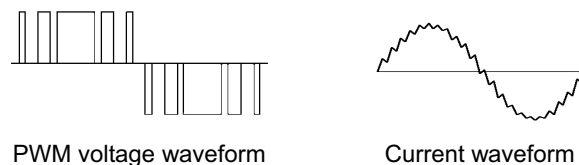

Figure 1.23 Output Voltage and Current Waveform of the Inverter
The voltage applied to the motor has a waveform modulated by the carrier frequency from the dynamic torque vector flux controller that estimates the optimal PWM signal monitoring the inverter output current feedback, as shown on the left-hand side ("PWM voltage waveform") of Figure 1.23. The voltage consists of alternating cycles of positive and negative pulse trains synchronizing with the inverter's output frequency.
The current running through the motor, on the other hand, has a fairly smooth alternating current (AC) waveform shown on the right-hand side ("Current waveform") of Figure 1.23, thanks to the inductance of the motor coil. The control block section controls the PWM so as to bring this current waveform as close to a sinusoidal waveform as possible.